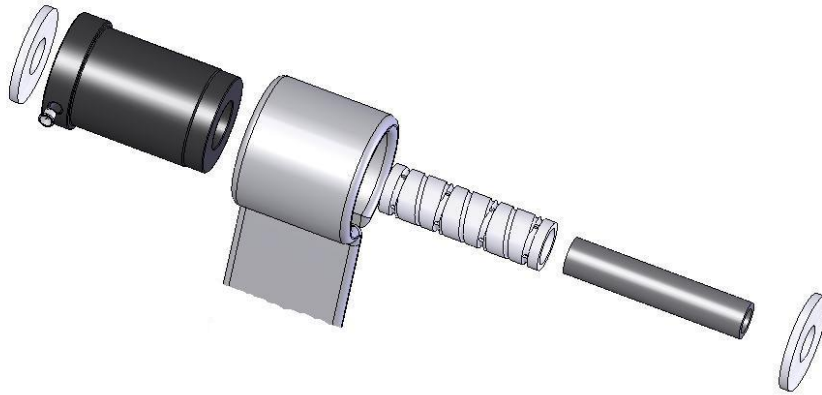

Figure 2 – Front Leaf Spring Bushing Assembly
1. After pressing out your stock bushings (if applicable), install the bushings as shown in Figure 2. Install the grease fittings facing down to ensure easy access for greasing.